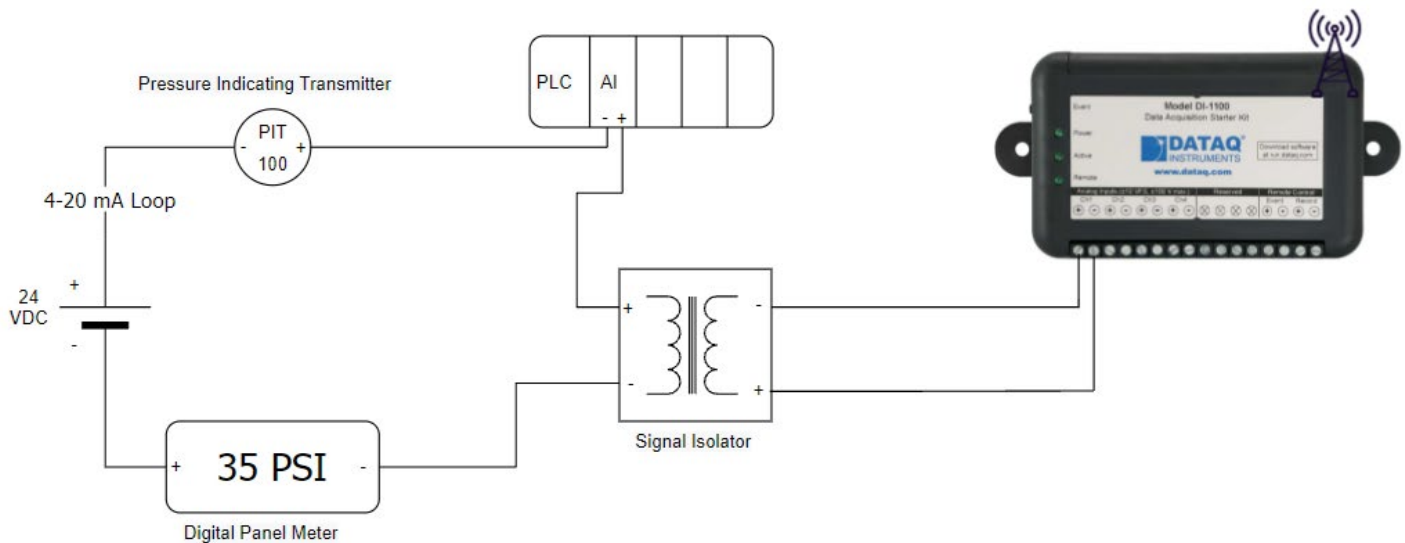

Figure 2 - Independent Pressure Alarm Example
**because of the design, implementation, or maintenance of a cyber-physical safety system.** Achieve simplicity and lower risk by using mechanical safety systems, such as a rupture disk. Use independent process monitoring alarms, as discussed in *Fundamental 4 | Implement System Monitoring for Threat Detection and Alerting*) and shown in Figure 2 in an initial, conservative approach. In some less time-sensitive cases, such as attempts to damage heat-sensitive electronic equipment by compromising an HVAC and building control system, use mechanical safety systems to reduce the likelihood of breach.
Figure 2 shows a simplified example of an independent alarming strategy. In this case, an analog copy of a critical system pressure is transmitted via an independent logging and telemetry system to the control center. The logger and associated logger server could generate an independent pressure reading and associated alarm. Ideally, a high-pressure alarm generated via the PLC (primary control system) would have a corresponding alarm generated via the logger and server. Any pressure value or alarms that were not within reasonable tolerances of one another would trigger further investigation and could help identify advance ICS/OT attacks that maliciously manipulate the process and primary control system.